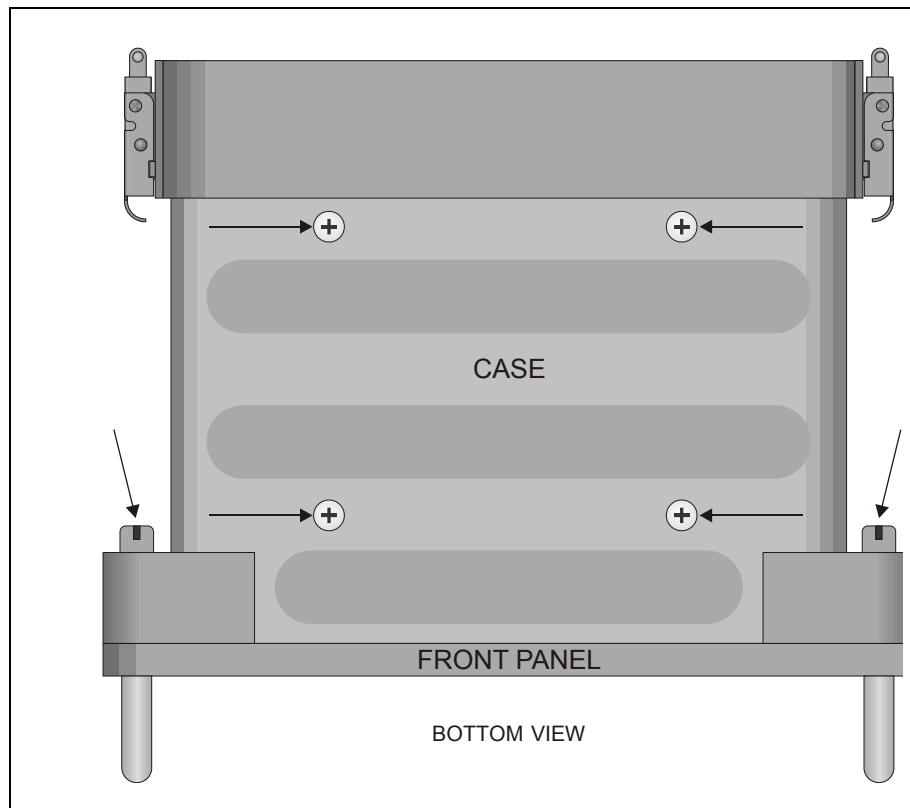

Figure 2-1 Captive and Chassis Screws
| Figure 2-1 | Captive and Chassis Screws | 2-2 |
2. Place the PRC-BC4 so the front panel is faced away from you. Locate and remove the four captive screws that hold the front panel to the case (refer to Figure 2-1 below).